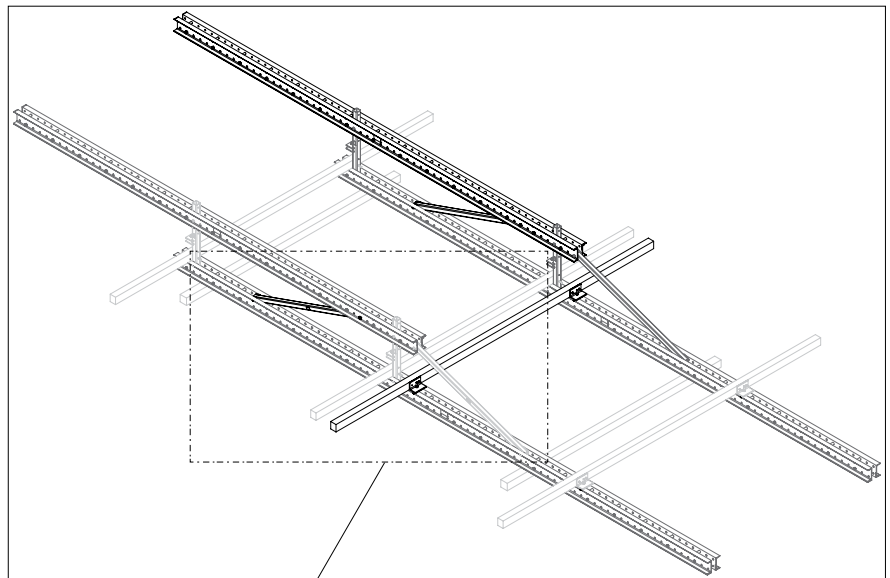

Fig. C1.09
- The Bracket Framework Version 2 has now been mounted. (Fig. C1.09)